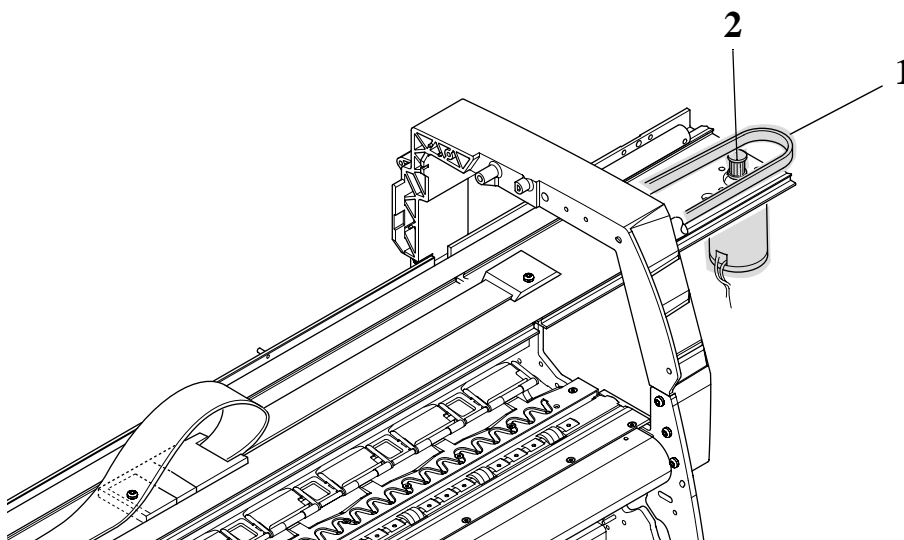

Figure 41: Tensioner Assembly
3. Remove the belt (item 1) from the belt motor pulley (item 2) on the right hand side of the Printer (refer to Figure 41)